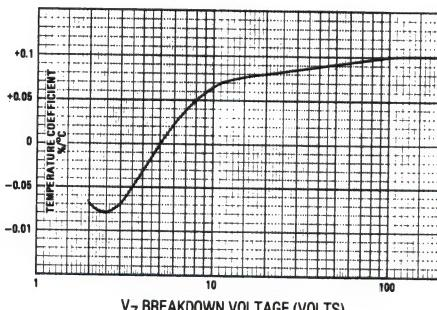

FIGURE 2
All semiconductors are susceptible to parameter changes with temperature. Of primary concern with Voltage Regulator Diodes is the change in the reverse breakdown voltage ( $V_Z$ ). As is commonly known, a forward biased junction exhibits a negative temperature coefficient (TC) between  $-1.6\text{MV}/^\circ\text{C}$  and  $-2.2\text{MV}/^\circ\text{C}$  depending on the methods and material used in fabrication. The temperature dependency of the Voltage Regulator Diode operated in the reverse breakdown "zener" mode is quite different. Figure 2 is a curve illustrating the change in  $V_Z$  with temperature changes.